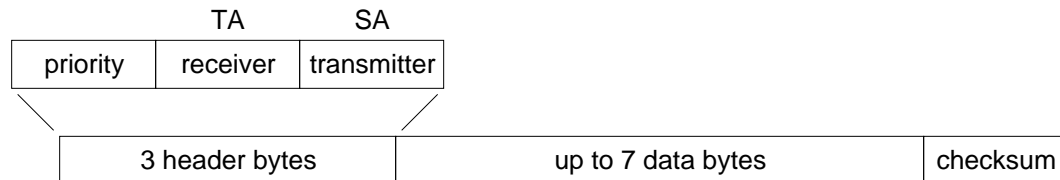

Figure 3. An OBD Message
to as header bytes. Figure 3 below shows a typical OBD message structure that is used by the SAE J1850, ISO 9141-2, and ISO 14230-4 standards. It uses 3 header bytes as shown, to provide details concerning the priority, the receiver, and the transmitter. Note that many texts refer to the receiver as the 'Target Address' (TA), and the transmitter as the 'Source Address' (SA).